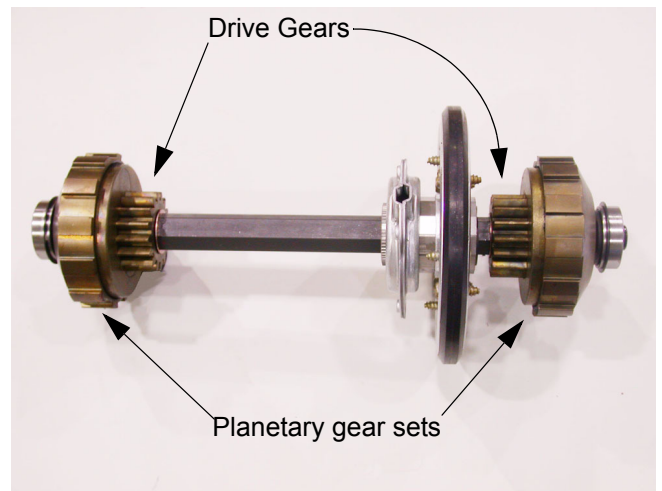

Figure 11.11
- 11.11. The complete drive assembly has two housings on each side commonly referred to as gear clusters. See Figure 11.11.